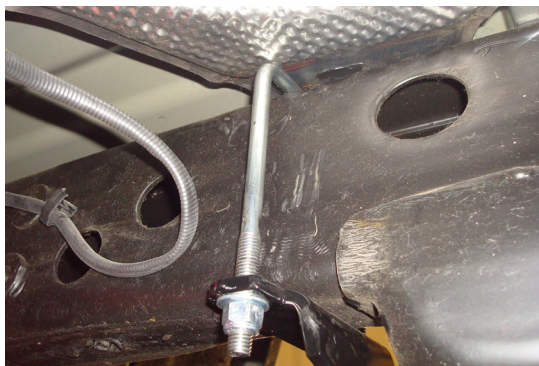

fig. 12
5. Figure 12 shows the U-bolt installed on models that have the heat shield above the axle with spacer installed on passenger's (right) side, forward of the axle. Continue with *Attaching the Lower Brackets*.